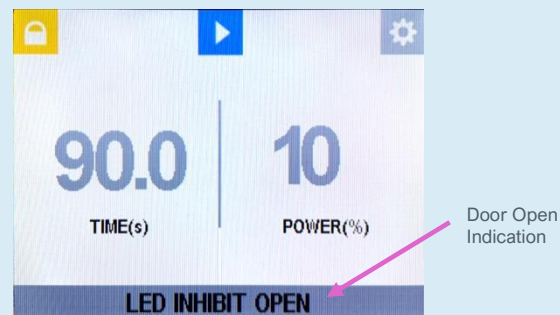

Figure 11. "LED INHIBIT OPEN" Indicates the Light Shield is Connected and Functioning Properly
9. Open the light shield door, and verify "LED INHIBIT OPEN" is displayed across the bottom of the LCD screen (Figure 11). This indicates that the light shield is connected and functioning properly.